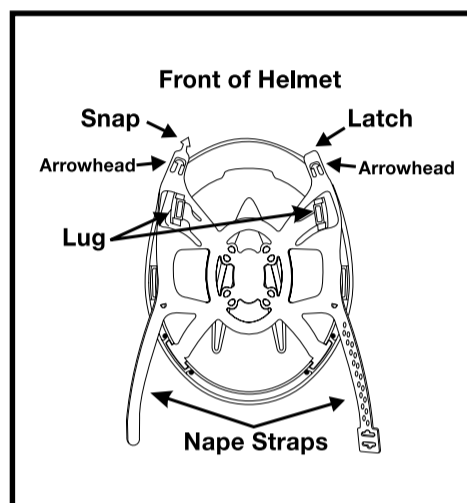

Figure 1
1. Orient suspension assembly with nape strap toward back of helmet. (See Figure 1)